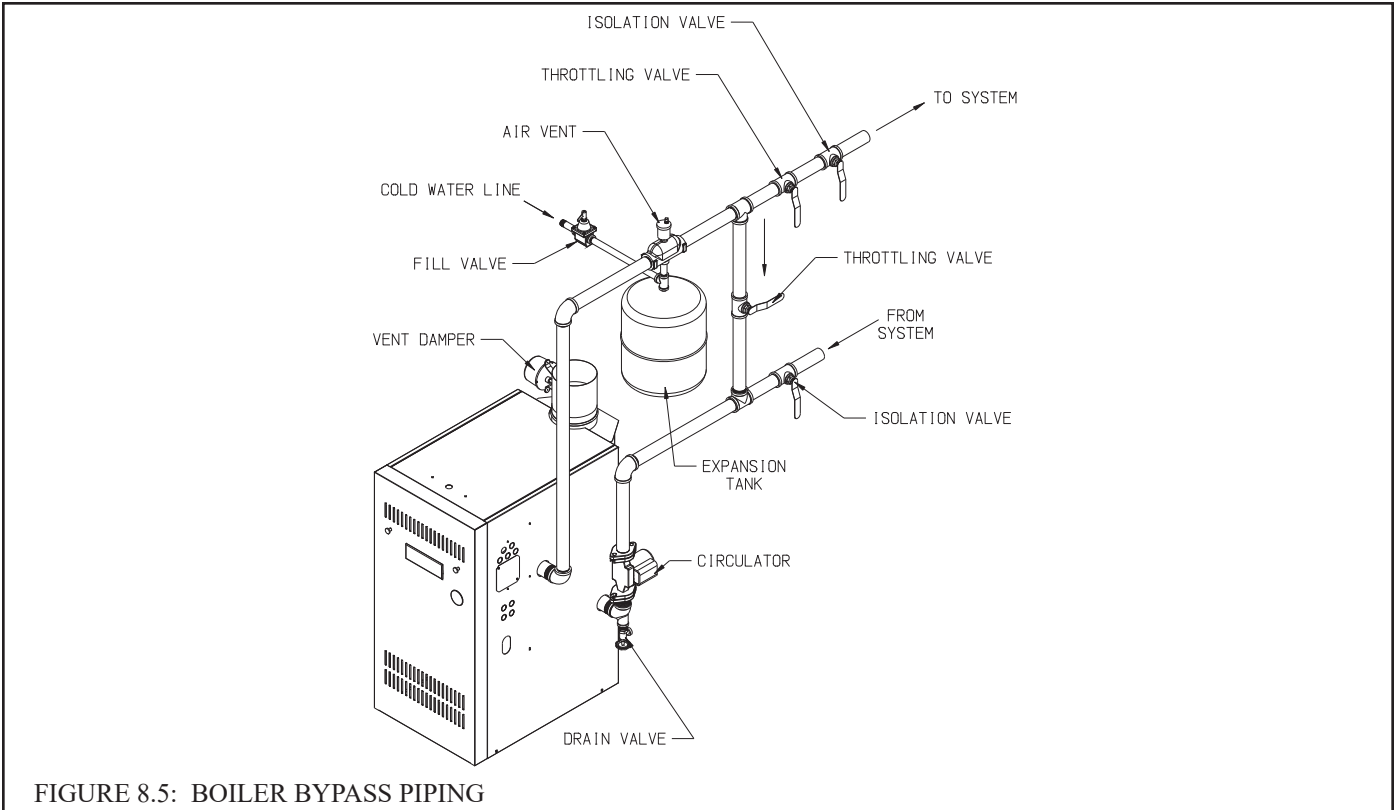

FIGURE 8.5: BOILER BYPASS PIPING
- 3) Large Water Volume Systems - The piping shown in Figure 8.5 will minimize the amount of time that the boiler operates with return temperatures below 120°F on these systems. A bypass is installed as shown to divert some supply water